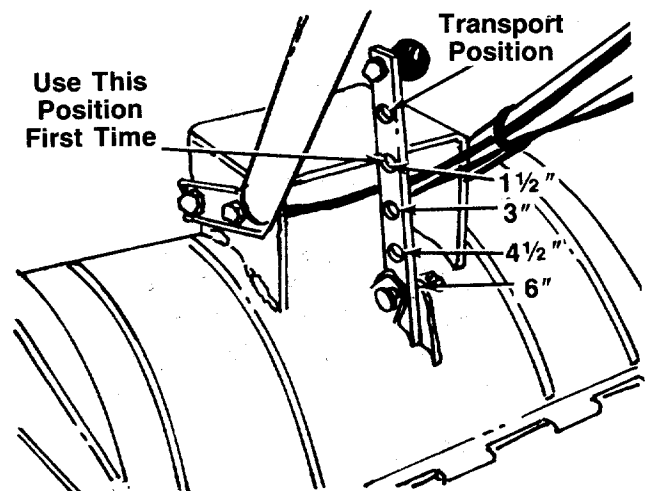
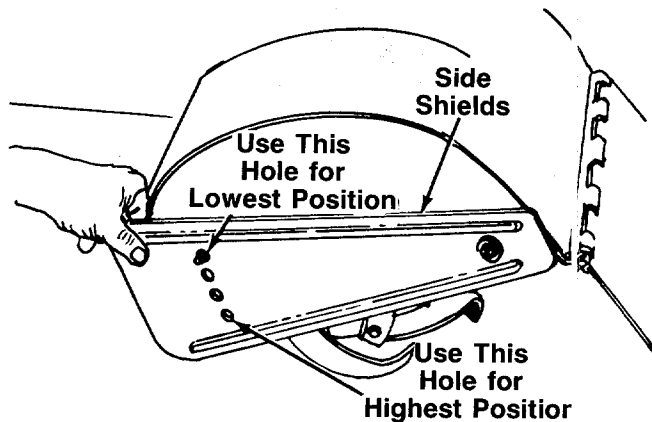

FIGURE 16.
FIGURE 17.
When operating the tiller for the first time, use the depth bar setting that gives 1½ inches of tilling depth (second hole from the top). Refer to figure 16. Use slow speed only.
Tilling depth is controlled by the depth bar which can be adjusted to five different settings. See figure 16. Adjust the side shields as shown in figure 17, as you adjust the depth bar. Be certain spark plug wire is disconnected and grounded against the engine.
1. When using the tiller for the first time, use the second adjustment hole from the top (1½" of tilling depth). See figure 16.
To adjust the depth bar, remove the clevis pin and hair-pin cotter. See figure 16. Move the depth bar to the desired setting.
To adjust the side shields, remove the hex nut and belleville washer from the front and loosen the rear nut. See figure 17. Pivot the side shield to the desired position. Replace hex nut and belleville washer. Tighten securely.